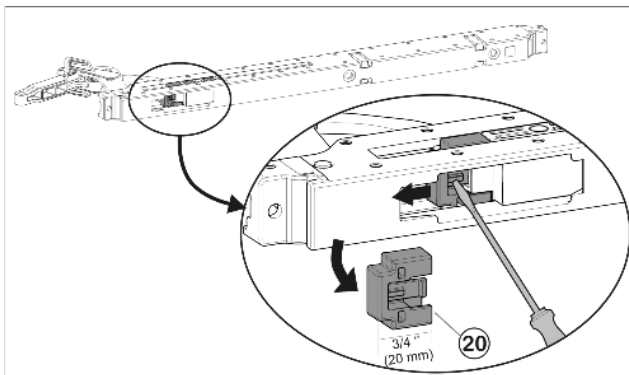

Fig. 29
- ▶ Remove opening limiter (110°) *Fig. 29 (20)* on soft stop mechanism: Press down notch using screwdriver and pull off opening limiter *Fig. 29 (20)*.